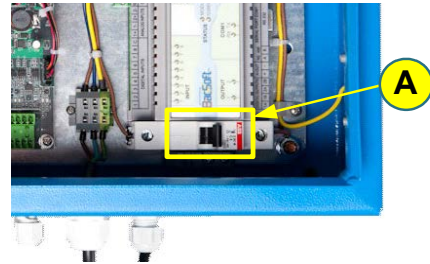

Figure 7-1: Control Module
- Step 4.** Locate the circuit breaker [A] in **Figure 7-1** and switch it to the **On** position.